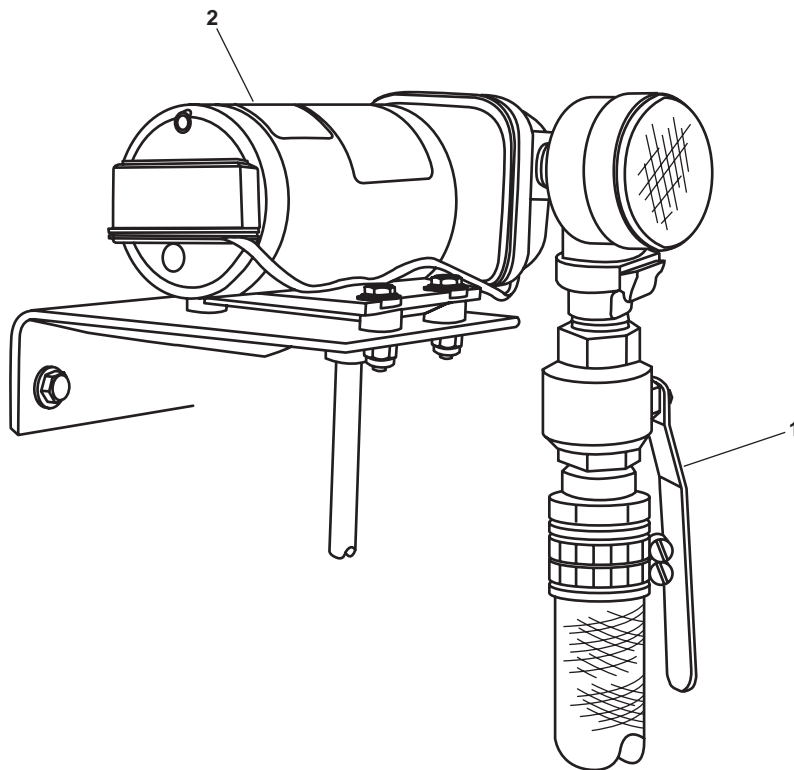

Figure 18. Fresh Water Flush Pump
- d. Fresh water flush pump outlet valve (figure 18, item 1)
- d. Verify that the fresh water flush pump (figure 18, item 2) starts.